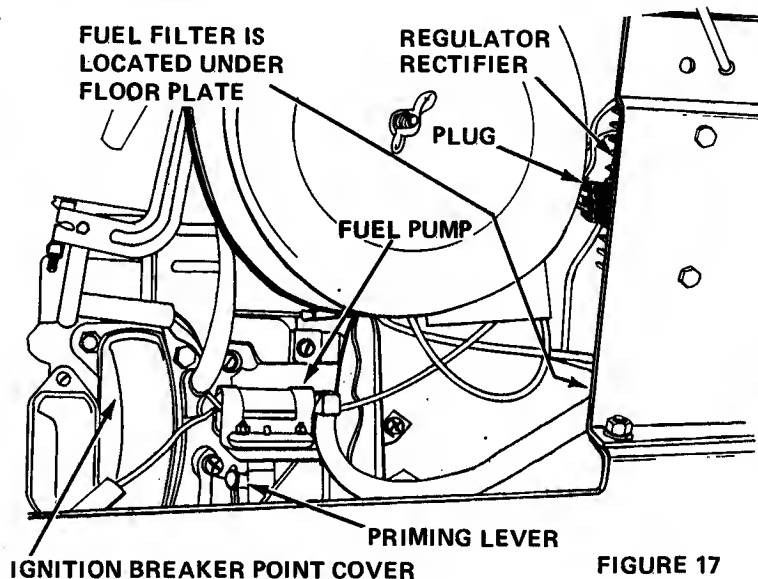

FIGURE 17
**WARNING:** Reversed battery cables or reversed cables from a battery charger or booster battery can cause damage to the regulator rectifier (Figure 17). Always disconnect plug from the regulator rectifier before using a charger, booster battery or when electric welding is done on the tractor.
The engine may fail to start due to lack of fuel at the carburetor if the fuel pump shown in Figure 17 loses its prime. This can occur when the fuel tank is run dry or may be due to evaporation of fuel from the system after a storage period. In either case, make certain there is fresh fuel in the tank and operate the priming lever on the fuel pump several times to start fuel flow.
When dirt or other foreign material is allowed to enter the fuel tank it will collect in the fuel filter shown in Figure 17. This will eventually cause fuel stoppage. The filter can be disassembled and cleaned.